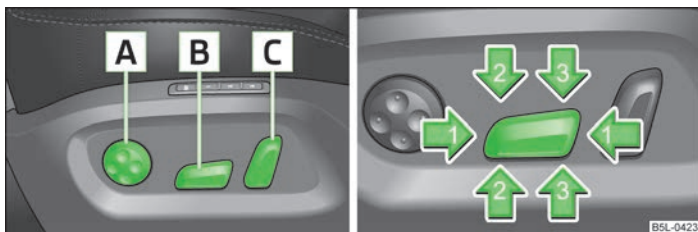

Fig. 44 Controls for the electric seat adjustment
- Press the switch **[B]** » Fig. 44 forwards or backwards in the direction of arrow 1.
- Press the switch **[B]** » Fig. 44 upwards or downwards.
- Press the switch **[B]** » Fig. 44 in the direction of the arrow 2 or 3.
- Press the switch **[C]** » Fig. 44 in the direction of the desired setting.
- Press the switch **[A]** » Fig. 44 forwards or backwards.
- Press the switch **[A]** » Fig. 44 upwards or downwards.